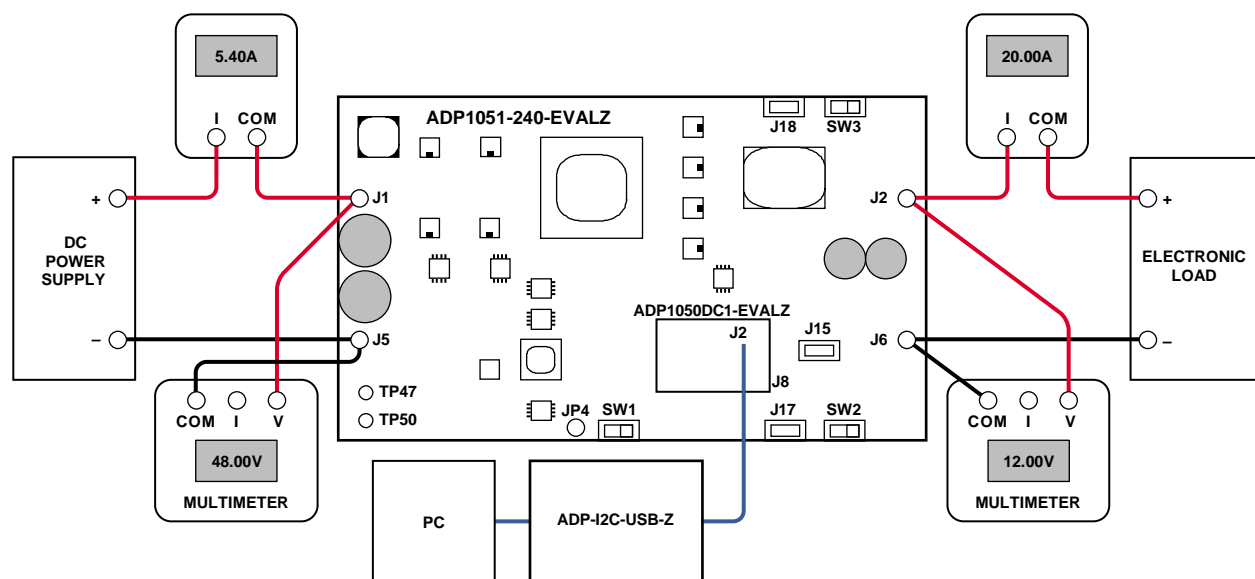

Figure 6. Test Configuration for the Evaluation Board
Figure 6 shows the test configuration of the evaluation board. The digital multimeters are optional. An independent dc source can be applied on TP47 and TP50 to generate all bias power supplies even if the dc input is lower than 30 V. The board evaluation can start when the dc input voltage is increased from 0 V.
1. Connect a dc source (voltage range of 36 V dc to 75 V dc) at the J1 and J5 input terminals, and connect an electronic load at the J2 and J6 output terminals. See Figure 6 for the correct configuration.
2. Connect the multimeters on the input terminals and output terminals separately as shown in Figure 6.